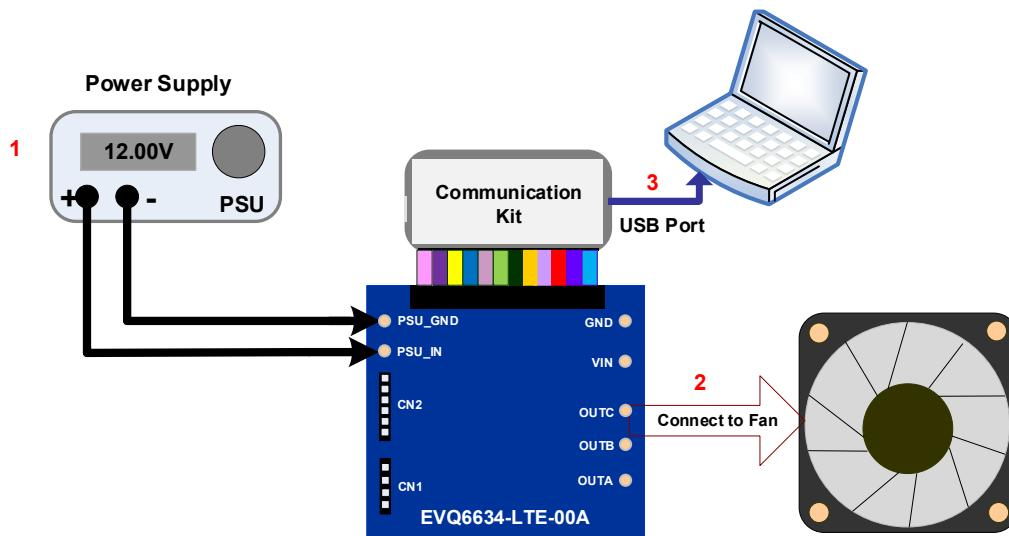

Figure 1: EVB Connection with the Communication Kit
2. Connect the power supply outputs to PSU_IN and PSU_GND (see Figure 1).
8. Figure 1 shows the equipment set-up with the communication kit.